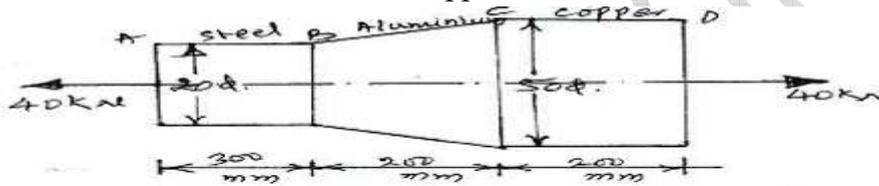

Fig. 1 (c)
- c. A stepped bar is subjected to an external loading as shown in Fig. 1(c). Calculate the change in length of the bar. Take E = 200 GPa for steel, 70 GPa for aluminium, 100 GPa for copper. 10 (3 :1: 1.7.1)